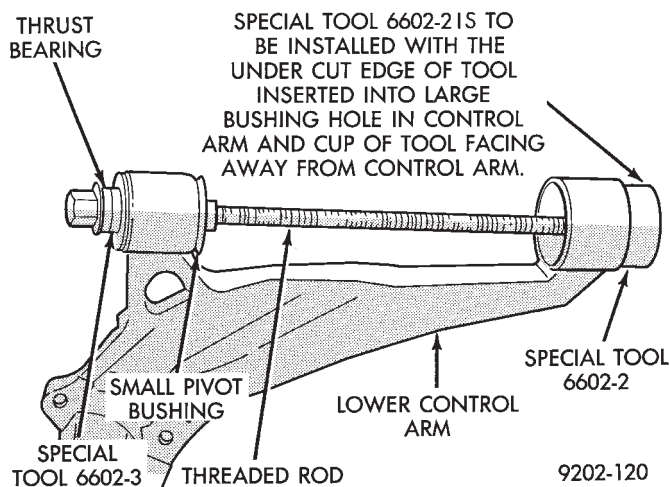

Fig. 6 Tool Assembled For Bushing Removal
(3) Install the tools assembled in step 2 above through small lower control arm bushing and hole in lower control arm where large bushing was removed from (Fig. 6). Assemble the Cup, Special Tool 6602-2 thrust bearing, washer and long nut onto the threaded rod of Special Tool 6602 (Fig. 6). Cup, Special Tool 6602-2 is to be installed on threaded rod with cup facing out and undercut in large bushing hole of lower control arm (Fig. 6).